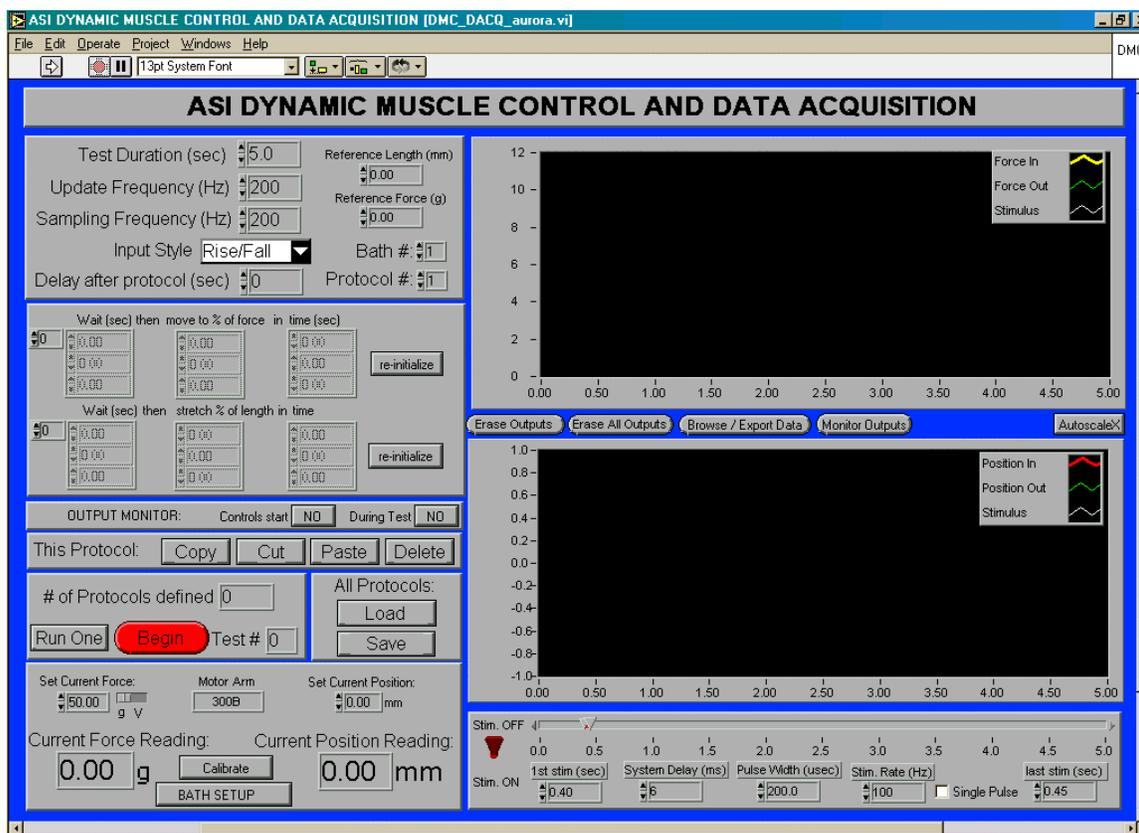

Figure 1. DMC control panel
1. Overall Program execution is enabled by clicking on white arrow (Figure 1) top of window and stopped by clicking on the red button. Once the program is enabled, the user can switch between modules without turning the program off.